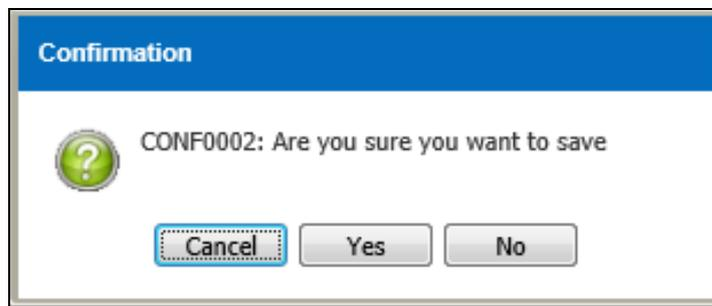

Figure 3.8.1-3 Confirmation Message
- Confirmation message as shown in Figure 3.8.1-3 will be displayed after user save the transaction
- Record will save when user click on the  button as shown in Figure 3.8.1-4